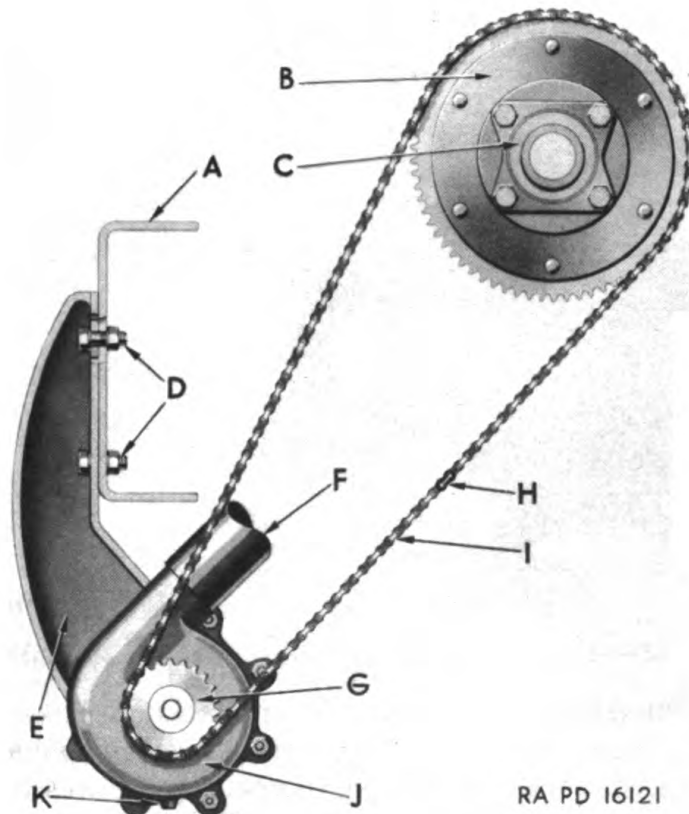

Figure 152—Centrifugal Bilge Pump Drive Adjustment
b. **Centrifugal Bilge Pump Drive Chain.** Whenever drive chain is too loose causing chain to slap or chain to ride off pulleys, chain should be adjusted. Refer to Fig. 152.
(1) Remove front center section of cargo compartment floor boards.
(2) Loosen two bolts attaching pump mounting bracket to frame side rail. Nuts on these bolts are accessible in frame channel as shown in Fig. 152.
(3) Slide pump mounting bracket downward in relation to frame side rail to tighten drive chain. This movement is permitted by elongated holes in pump mounting bracket.
(4) Tighten two bracket to frame rail mounting bolts with pump held in new position to take up slack in chain.
(5) If movement of pump mounting bracket is not sufficient to tighten chain, then chain must be shortened by removing links.
(6) Install front center section of floor board.